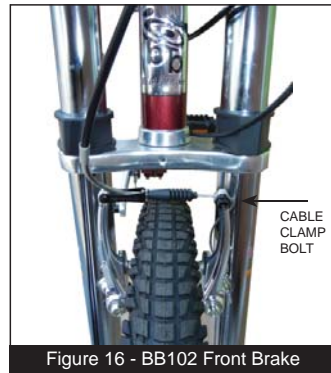
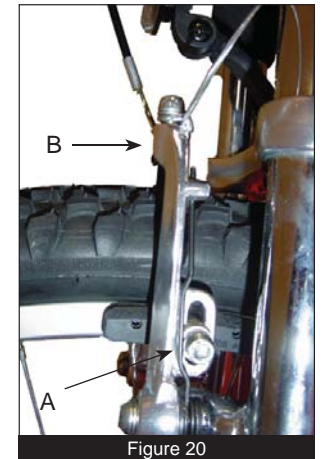

Figure 16 - BB102 Front Brake
Figure 20
**Captain V Brakes (Front & Rear):** If cable slack can't be removed at brake levers, reverse the adjustments in Step 1 above so the cable is as slack as possible. At captain's brake loosen the cable clamp bolt (**Figure 16**) with a 5-mm Allen wrench while holding brake shoes against the wheel rim. Pull out cable slack with a pair of pliers. Tighten the cable clamp bolt to a torque of 44—60 inch/pounds. Repeat as necessary.
**Captain V Brakes Shoe Adjustments:** 1) Keep each brake shoe at least 2 mm away from the tire. The brake shoe must not rub on the tire, only on the rim. Make this adjustment by loosening the brake shoe clamp bolt, (A in **Figure 20**) with a 5-mm Allen wrench, move the shoe up or down in the brake arm slot, tighten the clamp bolt to 50—70 inch/pounds of torque. 2) Adjust brake shoes so they are at least 2 mm away from the wheel rim. Make this adjustment by loosening the brake cable clamp bolt (**Figure 16**) with a 5-mm Allen wrench and by moving the brake cable in or out of the cable clamp bolt. Tighten the bolt to 44—60 inch/pounds.
**CAUTION:** The brake spring may also have popped off the brake arm (A in Figure 20). If so, replace it behind the tab on the brake arm, as shown in Figure 20, where arrow A is the brake spring, arrow B shows the brake arm with brake tab. This caution also applies to the rear wheel.